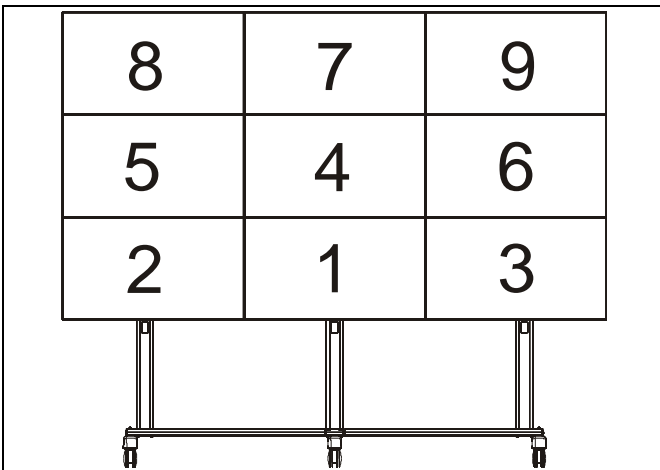
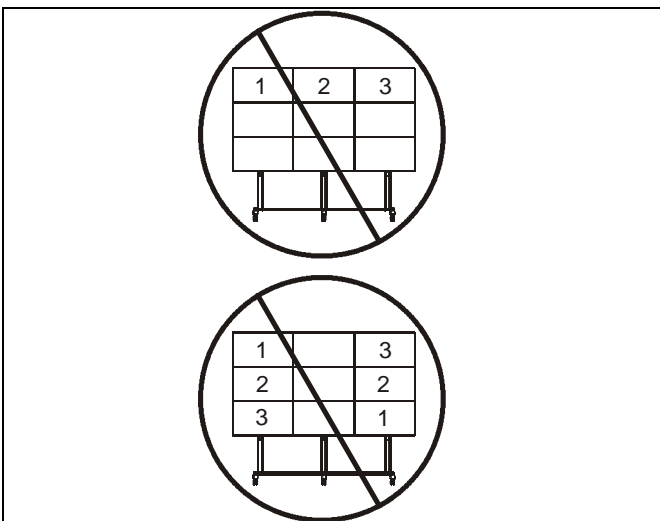

Figure 17
Figure 18
- Starting from the bottom and working up, hang interface brackets (AA and BB) to display rails (K or L and KK). (See Figure 17)
WARNING: Improper display installation to the cart can result in serious personal injury or damage to equipment! Install displays from the bottom to the top to decrease the risk of tipping the mount during installation. Do not mount all of the displays on one side prior to installing the displays evenly in each row. On the LVM3X3, mount the center displays in each row prior to installing the outside displays. See Figure 17 for an ideal mounting order for the LVM3X3. See Figure 18 for unacceptable and risky installation mounting orders.